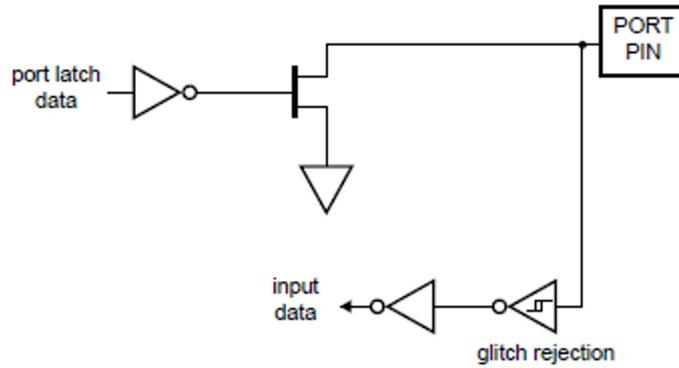

FIG. 5: Open Drain mode
- Let's look at *Open Drain* mode first in Figure 5. If the Port bit (say P2.7) is set to a "0", then the NMOS transistor provides a path to GND. The LED's on the board are biased in such a way where this NMOS acts as a switch for them. However the current is limited to the impedances in the KVL path.